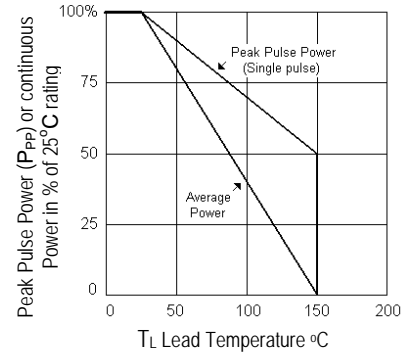

FIGURE 1
NOTE 1: See MicroNote 108 for lower Clamping Voltage performance at lower I_P values relative to I_{PP} and P_{PP} ratings and Figure 1.
NOTE 2: Equivalent to ratings of 257, 228, 205, and 164 Amps of 20 kW at a longer 10/1000 μs impulse (see Figure 1) with clamping voltages shown for the RT65KP48A, 54A, 60A, and 75A part numbers respectively. Also see Peak Pulse Power (P_{PP}) performance levels for other aircraft waveforms on page 3 for this device series.
NOTE: This P_{PP} versus time graph allows the designer to use these parts over a broad power spectrum using the guidelines illustrated in App Note 104 on Microsemi's website. Aircraft transients are described with exponential decaying waveforms. For suppression of square-wave impulses, derate power and current to 66% of that for exponential decay as shown in Figure 1.
NOTE: The 1MHz damped oscillatory waveform (3) has an effective pulse width of 4 μ s. Equivalent peak pulse power at each of the pulse widths represented in RTCA/DO-160E for waveforms 3, 4 and 5A (above) have been determined referencing Figure 1 herein as well as Application Notes 104 and 120 (found on Microsemi's website) and are listed below.